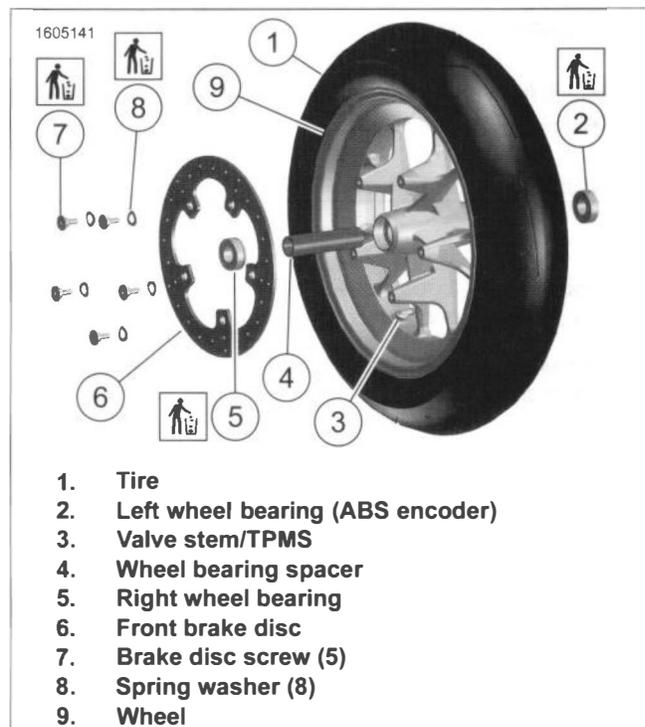

Figure 3-5. Front Wheel Components (Cast Wheel)
1. See Figure 3-5. Remove front brake disc.
- a. Remove and discard screws (7).
- b. Remove spring washers (8).
- c. Remove front brake disc (6).
2. Remove front tire (1). See TIRES (Page 3-18).
3. See Figure 3-5. Remove tire valve stem (3). See TIRE PRESSURE MONITORING SYSTEM (TPMS) (Page 3-16).
5. See Figure 3-5. Remove wheel bearing spacer (4).
1. Install wheel bearing spacer (4) and **new** wheel bearings (2, 5). See SEALED WHEEL BEARINGS (Page 3-15).
2. See Figure 3-5. Install **new** tire valve stem (3). See TIRE PRESSURE MONITORING SYSTEM (TPMS) (Page 3-16).
3. Install tire (1). See TIRES (Page 3-18).
4. See Figure 3-5. Install front brake disc.
- a. Align front brake disc (6) with mounting holes.
- b. Install **new** spring washers (8) on **new** brake disc screws (7).
- c. Install **new** brake disc screws (7).